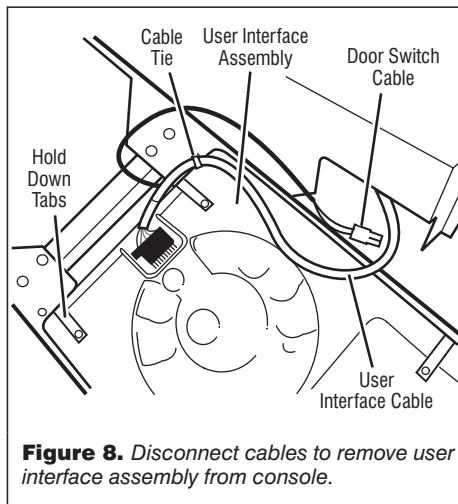

Figure 8. Disconnect cables to remove user interface assembly from console.
4. Disconnect the door switch cable from the control board and disconnect the UI (User Interface) cable from the UI. Also cut the cable tie holding the UI cable to the console. See figure 8.
5. Remove the hold down tabs. See figure 8.